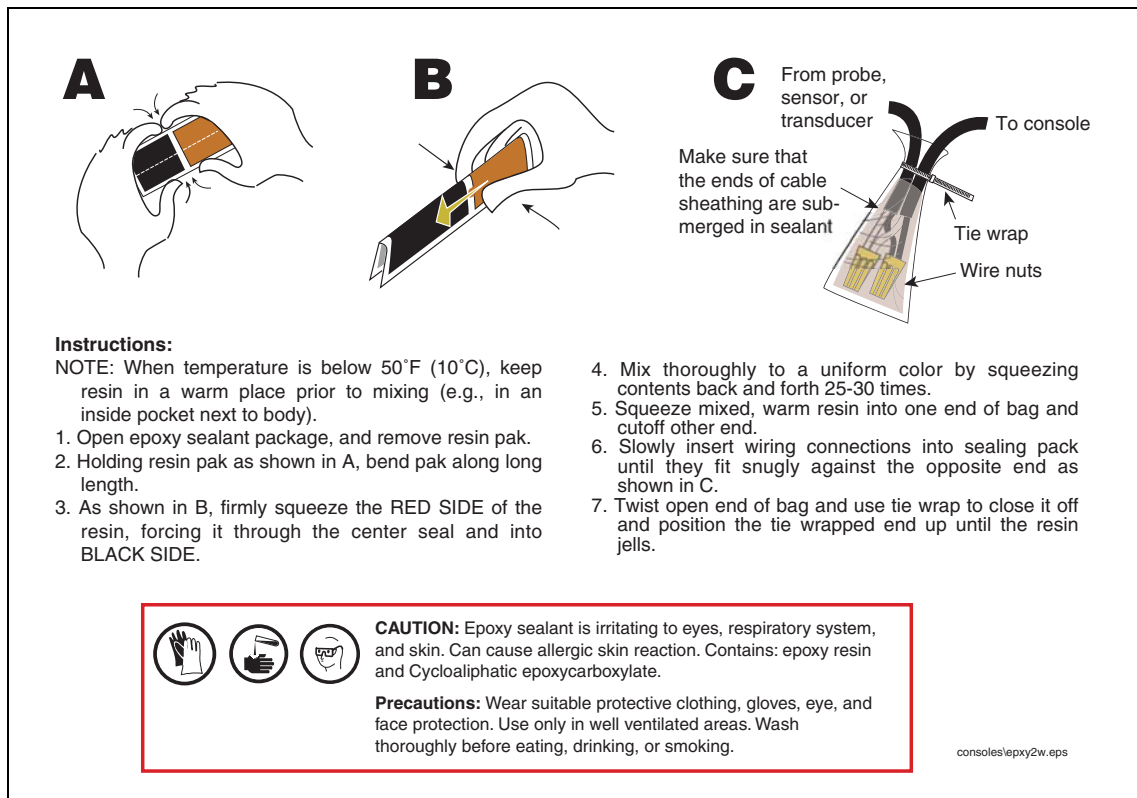

Figure 3. Epoxy Sealing Field Connections
- Seal wire nuts with epoxy sealant following the instructions in Figure 3.